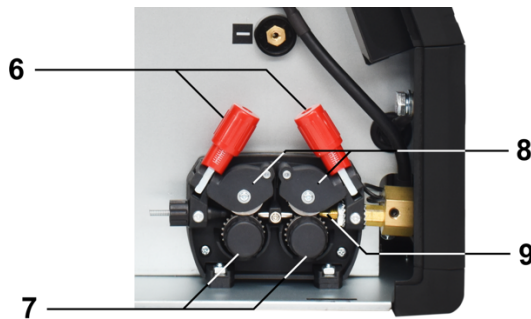
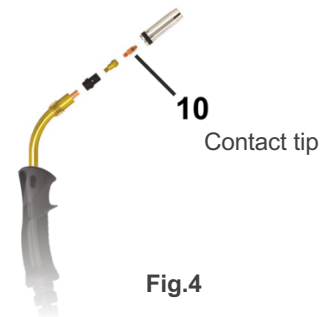

Fig.3 – Wire motor
Fig.4
- The rolls (7- Fig.3) and the torch contact tip (10- Fig.4) must correspond to the diameter of the wire to be used.
- Drive the wire through the rolls (7- Fig.3) and the wire guide (9- Fig.3), advancing it by hand a few centimeters. Close the traction levers (8- Fig.3), checking that the wire is positioned on the groove of the roll. To adjust the pressure of the traction levers on the wire, the adjusting screw (6- Fig.3) must be carefully tightened until the wire is advanced. This adjustment must be completed with the machine in operation avoiding very forced adjustments that cause the wire to collapse.